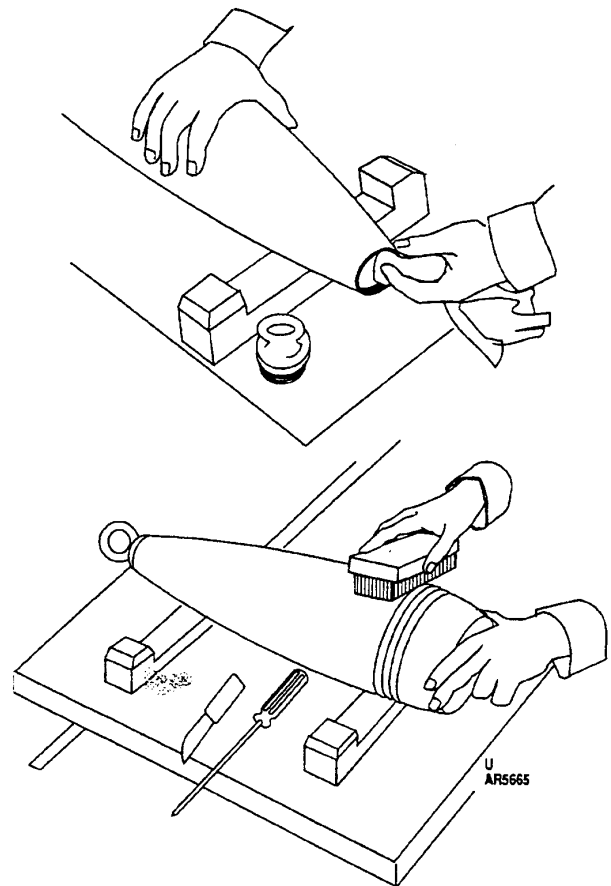

Figure 3-19. Cleaning Rust and Corrosion from Fuze Well and Projectile Body.
3.10 CLEANING, TOUCHUP, AND MARKING OF AMMUNITION (FIG. 3-19).